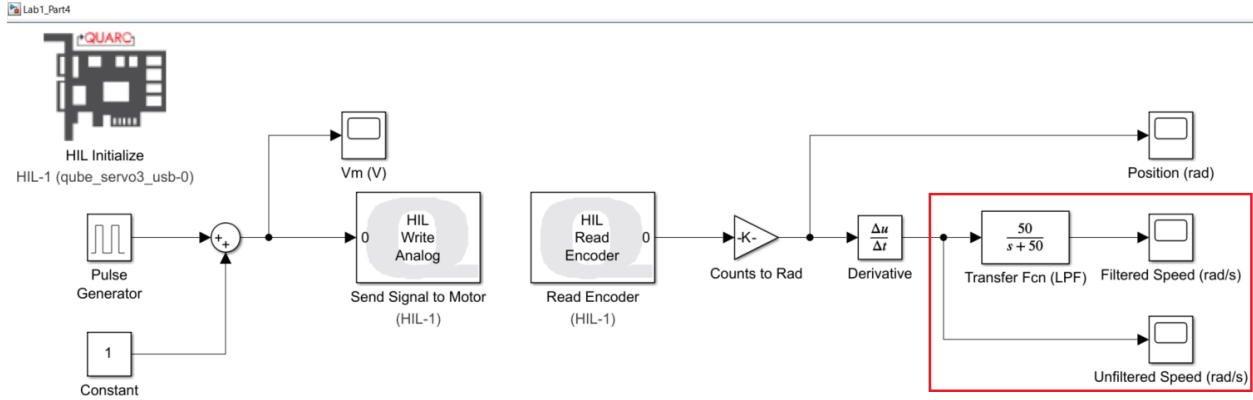

Figure 12: Target Simulink Model for Part 4.
1. For this part, continue working with the Simulink Model developed in Part 3. In fact, we just need to add a low-pass filter to the model of Part 3 to filter out the noise. This will require only the parts inside the red box shown in Figure 12 (which shows the target model to be developed in Part 4) to be added to the Part 3 model. The next two steps discuss adding these blocks.
2. Bring a *Transfer Fcn* (function) block into the modeling space and connect it to the output of the *Derivative* block as shown in Figure 12. This block can be found in the library: Simulink > Continuous. To make this transfer function a low-pass filter, we will use the transfer function of the type given in Equation (5) with a cut-off
3. Add two *scopes* to the model, one to see the unfiltered speed and the other to see the filtered speed as shown in Figure 12.
5. By now, your model should look like the one shown in Figure 12. Save your work. Turn ON the Qube-Servo 3 motor, *build* your Simulink model and then press the *Monitor & Tune* button to deploy it on to the Qube-Servo 3.